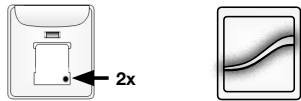

Fig. 10
2. Using a paper clip or a similar item, press and release the programming button located on the back side of the new remote twice in rapid succession (two taps). The LED on the remote will alternately flash amber and green. (Fig. 10)